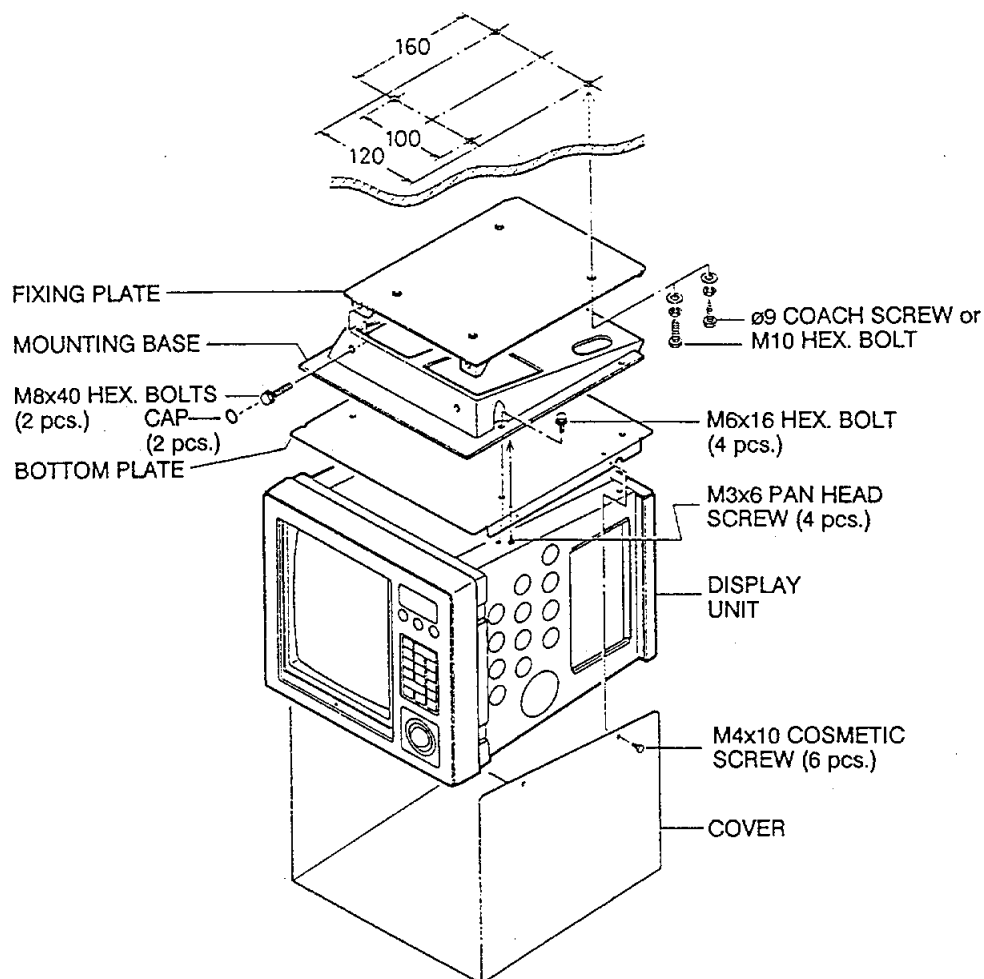

Figure 6-10 Display Unit Bulkhead or Overhead Mounting
1. Referring to Figure 6-10, change the location of the fixing plate, mounting base, bottom plate and cover.